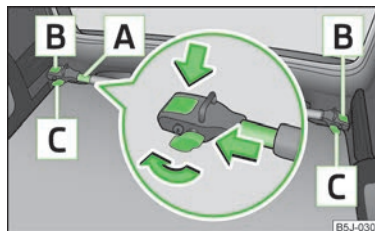

Fig. 56
- Undo the securing screws **C** » Fig. 56 and remove a little to unlock the holders **B**.